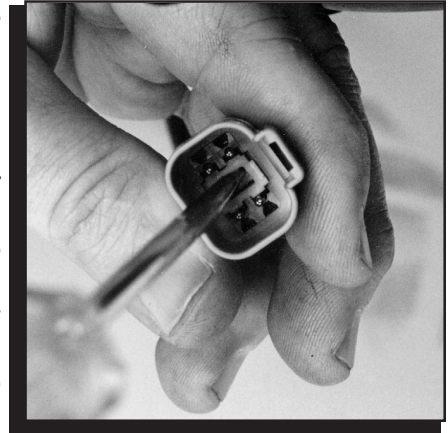

Figure 6 Assembling the Connector.
4. Insert the orange locking plug through the open end of the connector. Use a screwdriver to push the plug into the shell until it locks (Figure 6). Once assembled, pull on each wire to ensure it is locked in position.